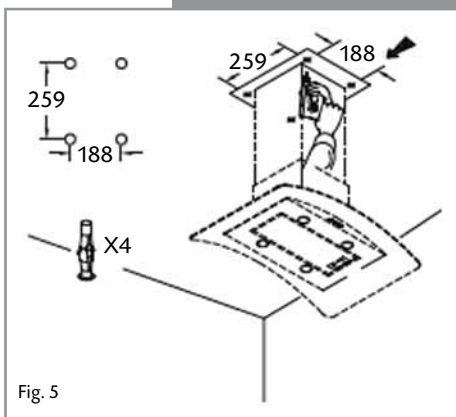

Fig. 5
1. Mark and drill holes in the ceiling for the four support plugs, using either the support section or the dimensions in fig5. as a guide.